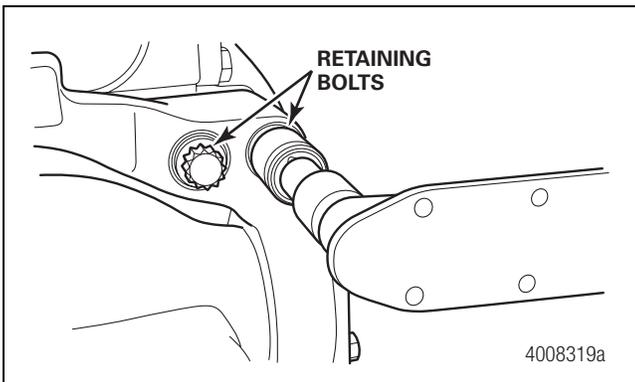
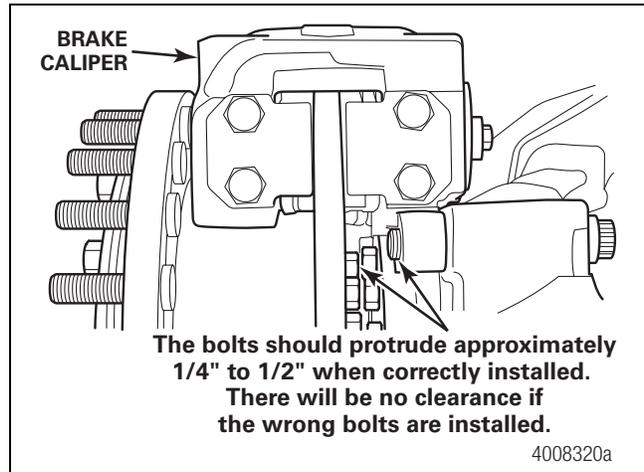

Figure 8.23
Figure 8.24
2. Install washers on the caliper mounting bolts. Install the two longer caliper mounting bolts into the upper holes and the two shorter caliper mounting bolts into the lower holes. Tighten the mounting bolts to the torque specified in Section 11. Figure 8.23 and Figure 8.24.